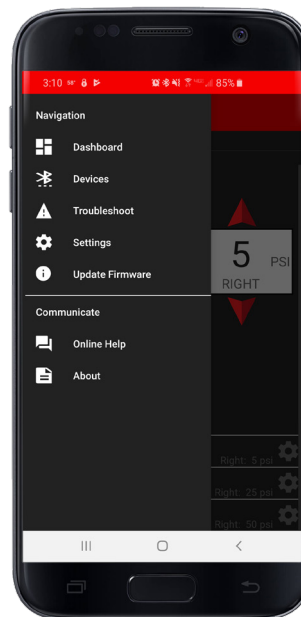

fig. E.1
1. The Navigation/Communicate screen (Fig. E.1) has these options: